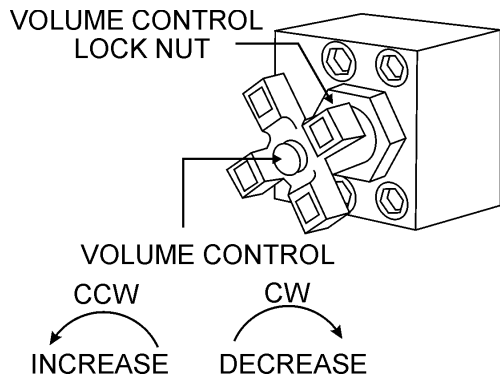

Figure 24. Volume Control
7. Turn the Volume Control (Figure 24), **lock nut** counter-clockwise (CCW) to release the volume control knob.